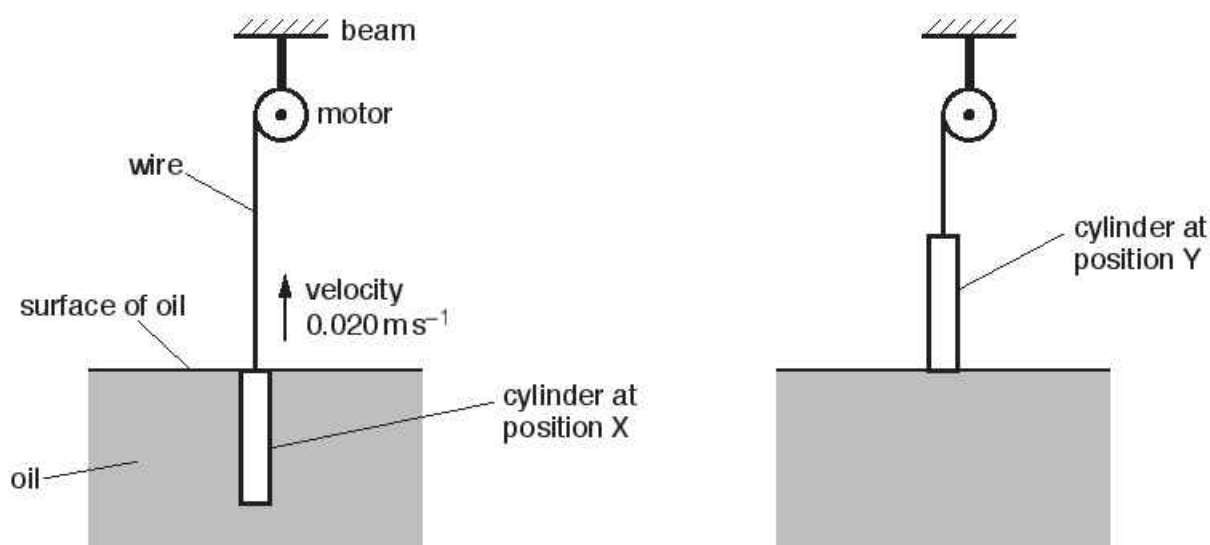

Fig. 5.1
- 26** A solid cylinder is lifted out of oil by a wire attached to a motor. Fig. 5.1 shows two different positions X and Y of the cylinder during the lifting process.